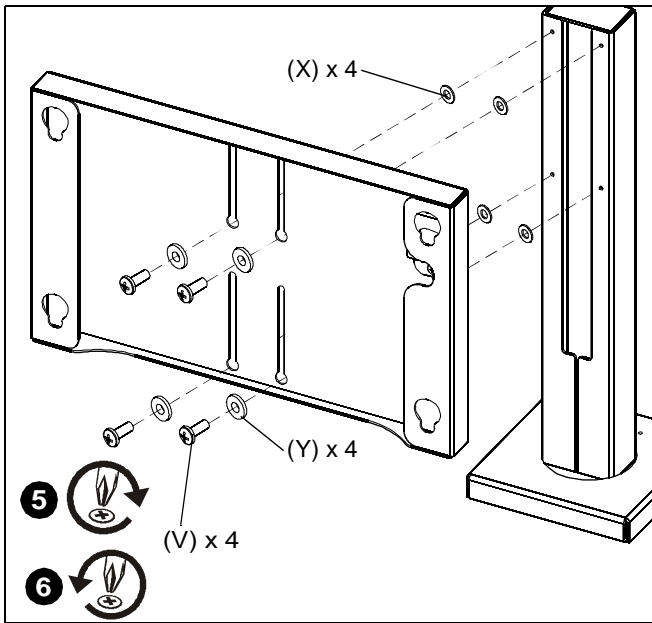

Figure 4
- Attach faceplate (A) to post (B) using four 10-24x1/2" Phillips screws (V), four shoulder washers (Y), and four nylon washers (X). (See Figure 4)